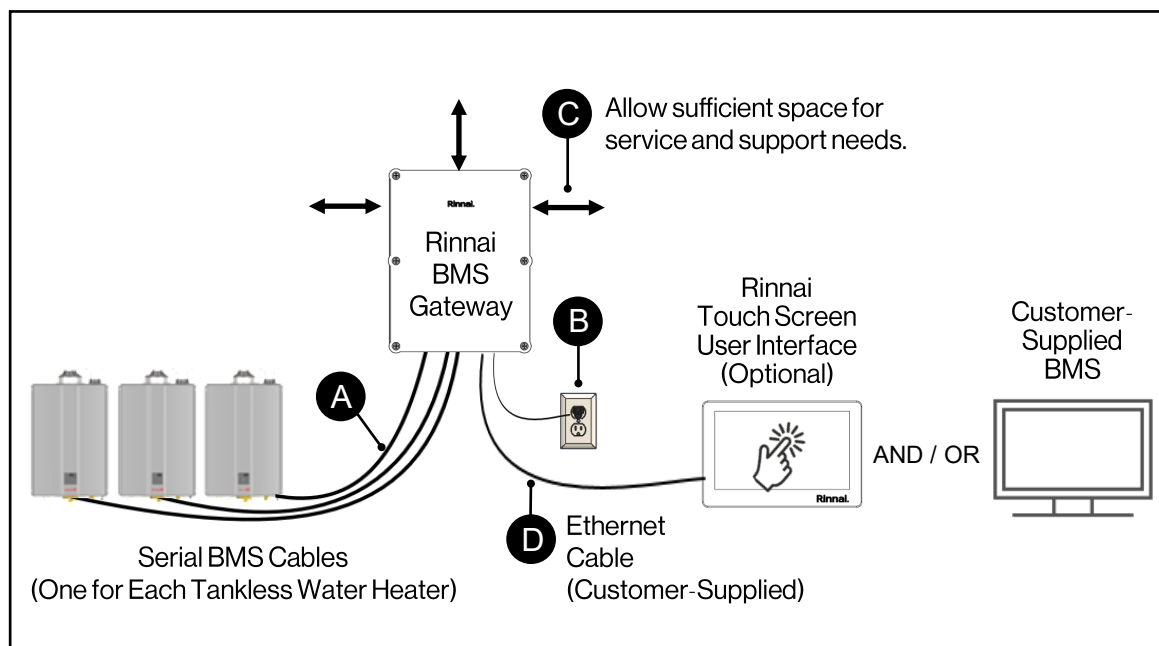

Fig 21. Installation Location Guidelines
- Choose a location close enough to allow the BMS Gateway to connect to each tankless water heater using the Serial BMS Cables (see “A” in Fig 21). Each Serial BMS Cable is 10 ft. (3 m).
- Ensure the location has provisions for power supply to the BMS Gateway enclosure (see “B” in Fig 21). The provided three-prong 120V AC power cord is 6 ft. (2 m).
- Ensure that adequate space surrounds all sides (including the front panel) of the BMS Gateway for service and support needs. No minimum space clearances are required (see “C” in Fig 21).
- Consider the length of other cables (if applicable to your configuration), such as Ethernet cables, network cables, RS-485 2-wire cable, etc. (see “D” in Fig 21).
Fig 21 above is for illustrative purposes only and is a sample configuration. The components of your configuration may differ from the illustration.